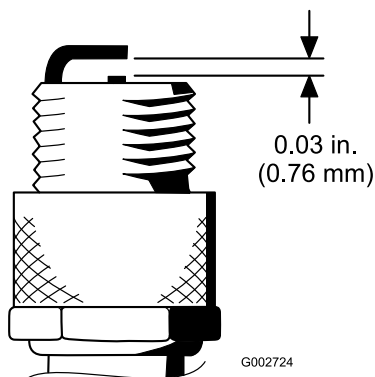

Figure 51
- Set the air gap between the center and side of the electrodes at 0.030 in. (0.76 mm) (Figure 51).